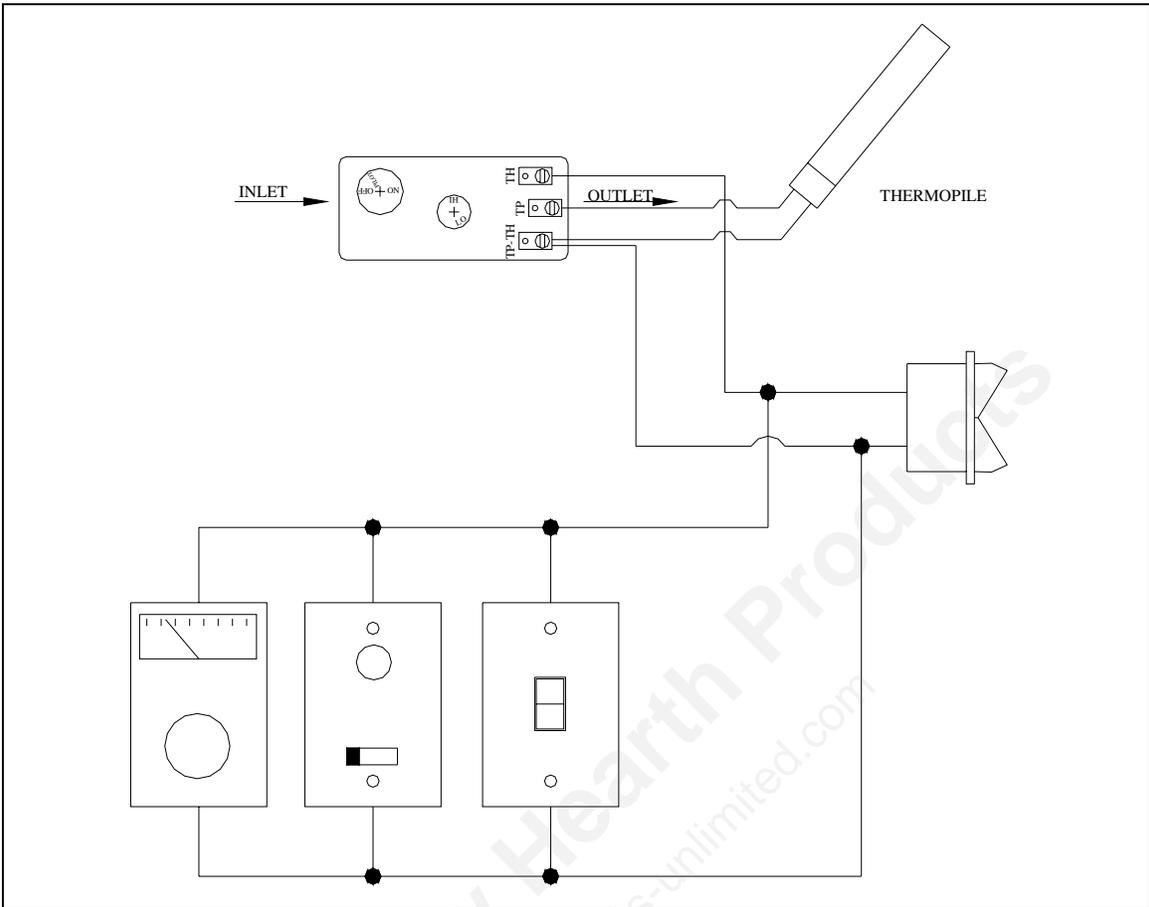
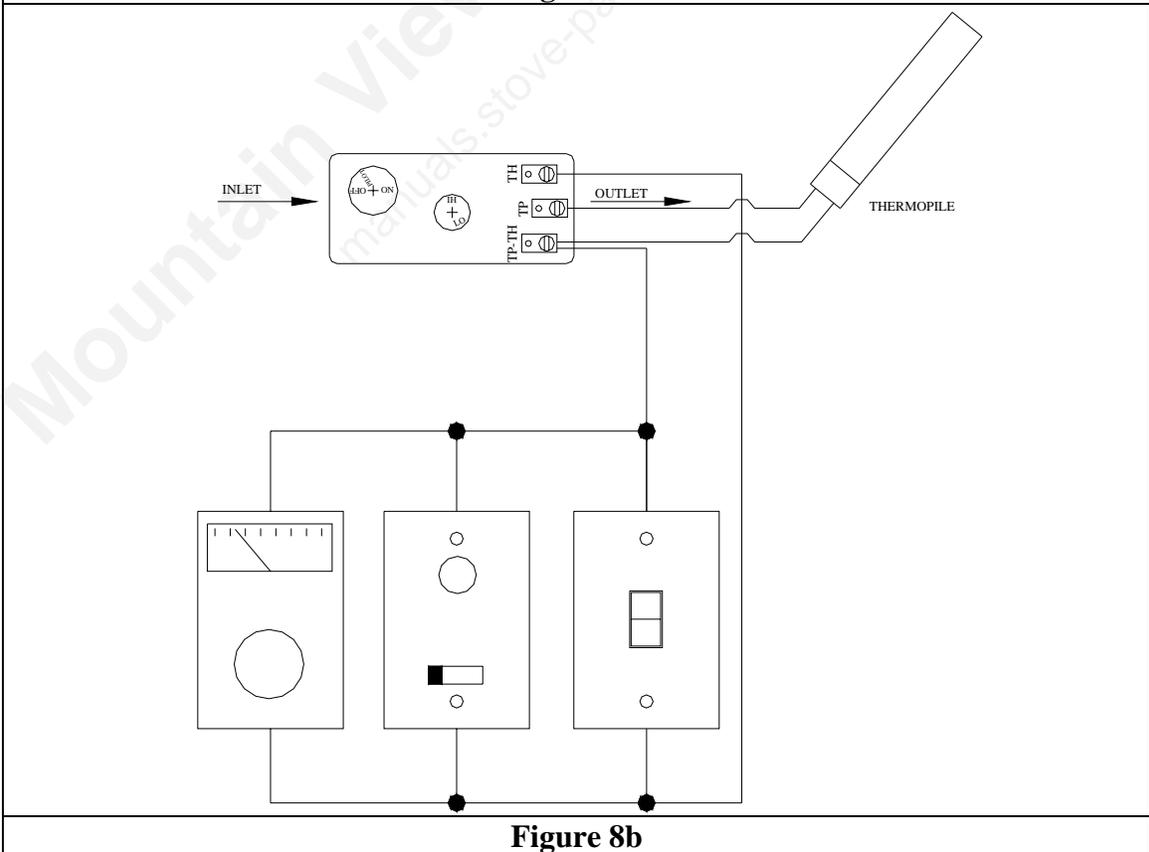

Figure 8a
Figure 8b
1. Mount the thermostat or wall switch in the desired location and run "two conductor thermostat wire" to the burner control switch (Figure 8a). To bypass the burner control switch, run the wires directly to the gas valve (Figure 8b).